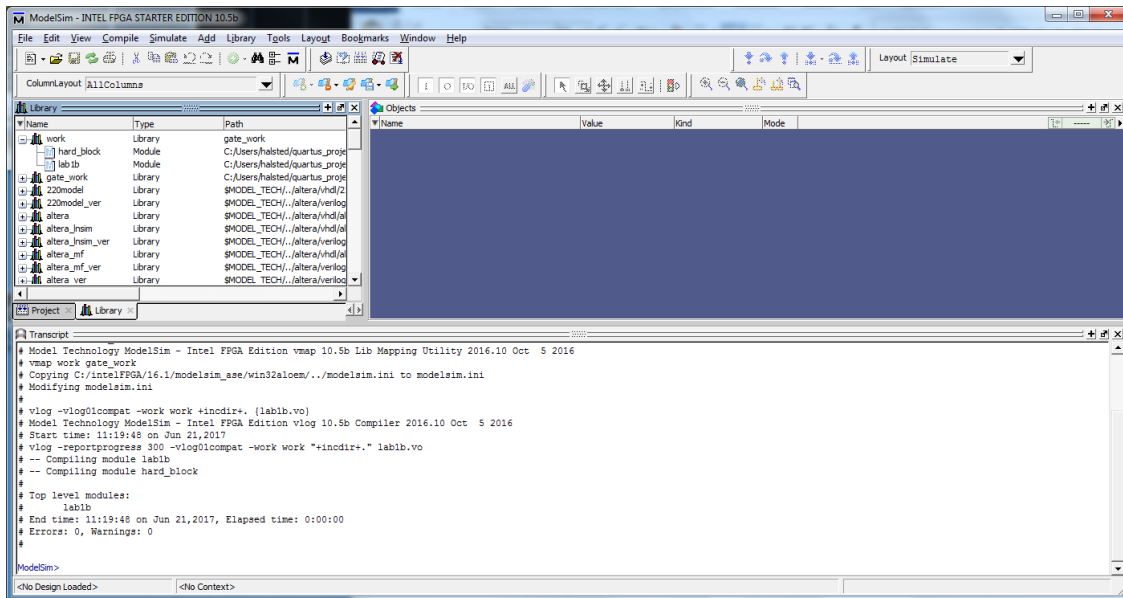

Figure 10. ModelSim-Altera
- ModelSim will open and your design will be automatically transferred to ModelSim. Verify this by looking at "**work**" folder in the Library list window. If the Library window is not open, select **View > Library** to open it. Click on the + to expand the work library. You should see your lab1 project name, which is a Verilog netlist output file, in the **work** Library, as shown in Figure 10.